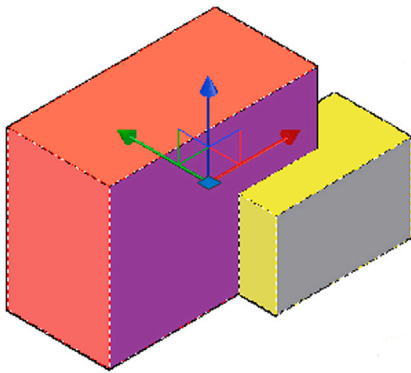
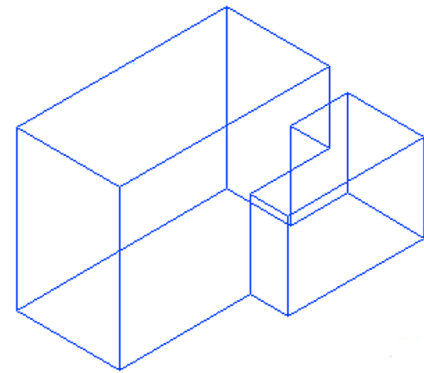

FIGURE 23.3 One solid cube after union (shaded view).
FIGURE 23.4 One solid cube after union (wireframe).
Step 2. Select both cubes (they turn dashed) and press Enter. Both cubes now are fused, as seen in Fig. 23.3. Notice how the grips reflect one entity, not two. Go ahead and move the objects; they move as one. This becomes even clearer if we switch to wireframe (Fig. 23.4), with a color change for additional clarity.